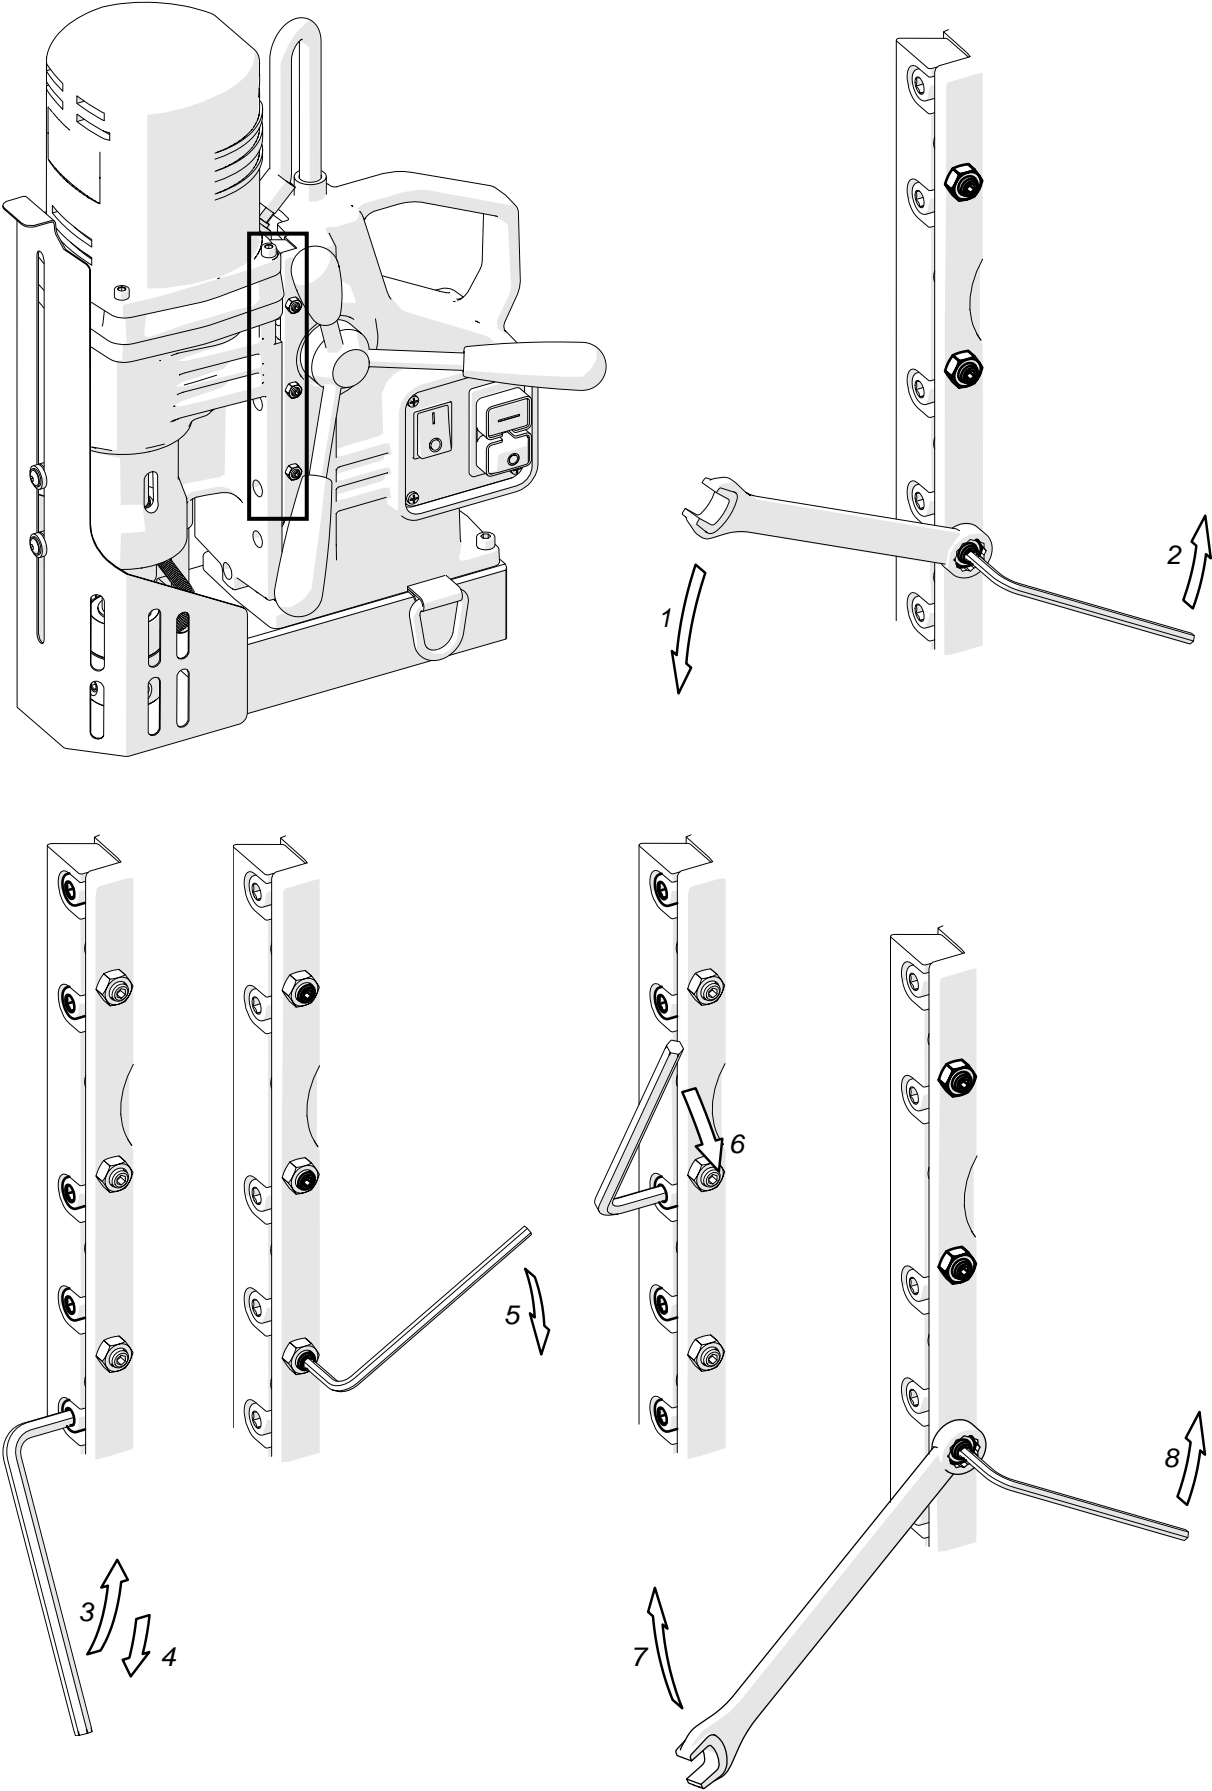

Fig. 9. Adjusting the gib clearance
To remove the excessive clearance, use the 8 mm combination wrench to loosen the nuts (1, Fig. 9), and then use the 2.5 mm hex wrench to loosen the set screws (2). Next, rotate the spoke handles to set the motor on such a level to access the gib screws through the holes, use the 4 mm hex wrench to loosen these screws (3), and then tighten (4) with a force enough to prevent the gib from being pushed out by the springs located inside.